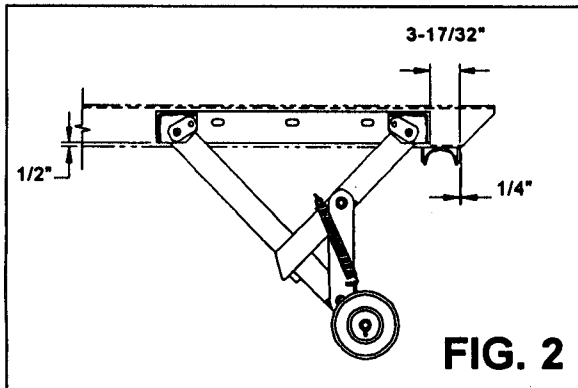

FIG. 2
3. Measure the distance from the bottom of the truck frame to the ground (NOTE: This should be performed on a level surface). Based this measurement and the dimensions in Fig. 1, the vertical channel [P/N: 63H94] may need to be modified in length to meet the Office of Motor Carrier Safety (OMCS) regulations. Regulation 393.86 requires that no bumper be located more than 30" off the ground when the truck is empty, and the end of the bumper should not be located more than 24" from the extreme rear of the vehicle, including truck bodies (See Fig. 2). Once the length has been determined for the vertical channels, weld them to the truck frame (See additional notes on next page).
- Position drop down bumper on the longsills of the sub-frame (See Fig. 2 & 3). The mount brackets [Part No. 51H17] need to be positioned correctly to allow for sufficient room for bumper cradles [Part No. 51H19] (See Fig.2). Weld mount brackets onto the longsills of the sub-frame.
- Position bumper cradles [Part No. 51H19] on the longsills of the sub-frame. Check bumper cradles for squareness with respect to each other. The bumper tube [Part No.51H16] should come to rest within the bumper cradles when the container rests on the ground (See Fig. 2 & 3). Weld bumper cradles into place on longsills.
3. Weld the front [62H87] and rear [62H88] brackets to the support bars. Be sure to maintain the dimensions as indicated so that the bumper folds properly (See Fig. 2 & 3).
5. Attach cab guard weldment to truck frame using fasteners provided (See Fig. 2).